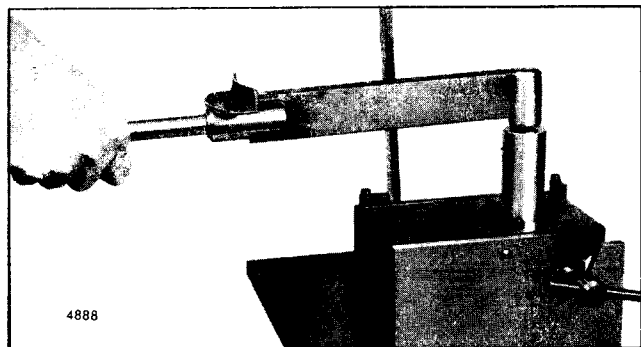

Fig. 41 - Tightening Injector Nut With Torque Wrench and Tool J 4983-01
9. Use socket J 4983-01 and a torque wrench to tighten the injector nut to 75-85 lb-ft (102-115 Nm) torque (Fig. 41).